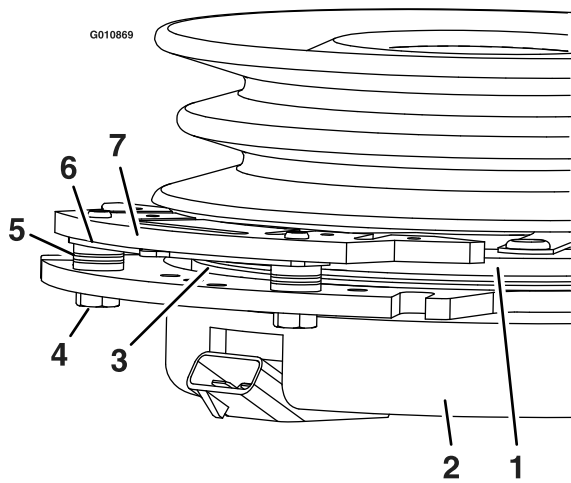

**Figure 59**
3. Remove the dust cap from caster and tighten lock nut (Figure 59).
4. Tighten the locknut until the spring washers are flat and then back off a 1/4 turn to properly set the pre-load on the bearings (Figure 59).
**Important:** Make sure the spring washers are installed correctly as shown in Figure 59.
5. Install the dust cap (Figure 59).